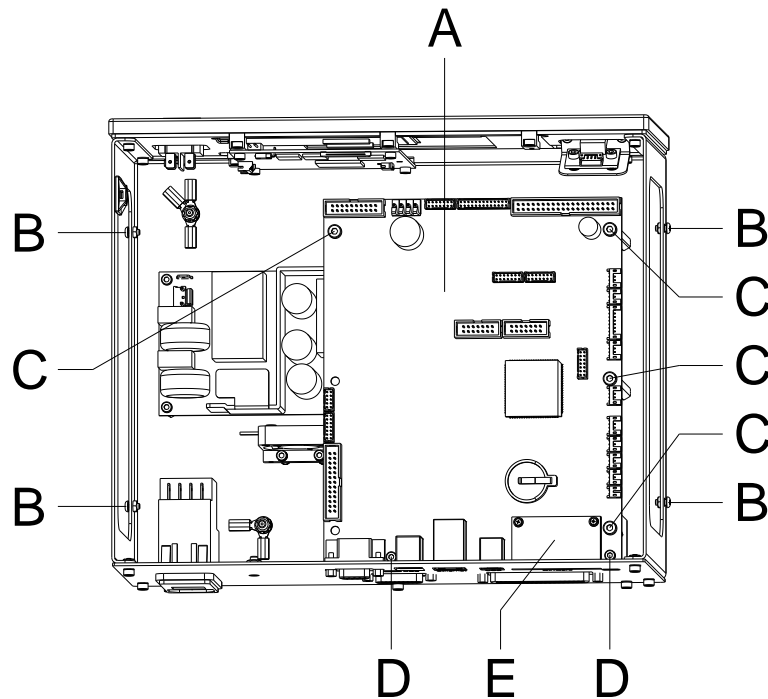

Figure 19
2. Unscrew the four screws (B, Figure 19) and remove the control unit cover.